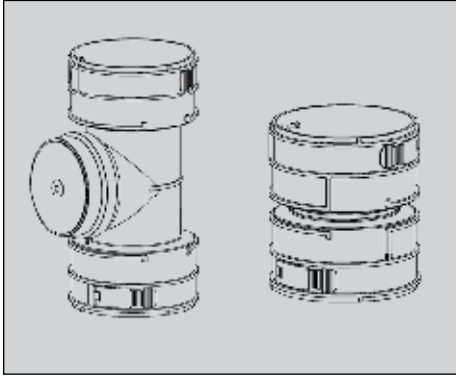

Figure 2a
4. When required, an inspection T piece must be used in the system, (**Figure 2a**). With the connection piece, (**Figure 2b**), two lengths of flexible liner can be connected to each other (can be ordered as accessory).